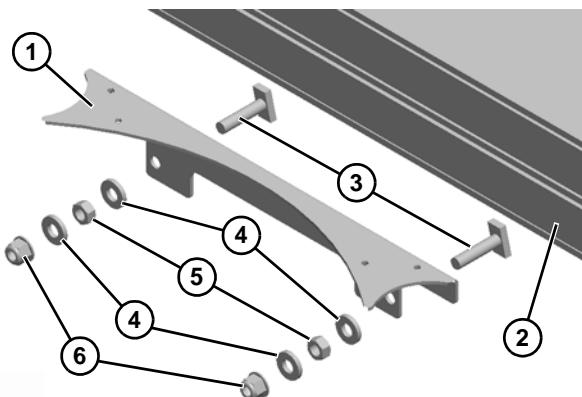

Figure 21
1. Install conveyor tie plate (**Figure 21, item 1**) to straight conveyor section (**Figure 21, item 2**) with two M8 x 35 mm studs (**Figure 21, item 3**), washers (**Figure 21, item 4**), and hex nuts (**Figure 21, item 5**).
2. Thread on hex nuts (**Figure 21, item 6**) a couple turns at this time.